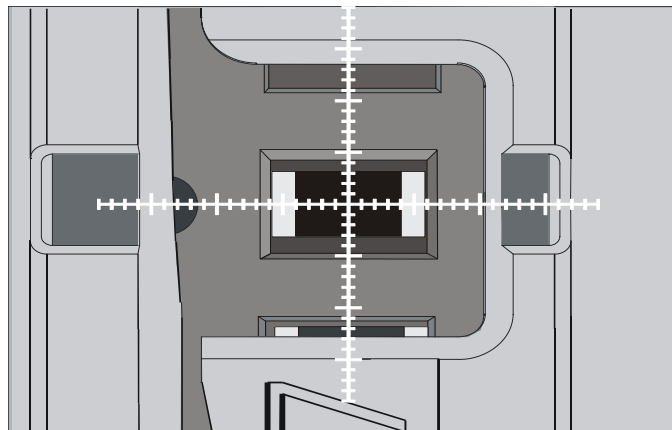

Figure 5-36. Camera view of component pick position.
5. Center the cross hairs on the component in the pick position by using the trackball, see Figure 5-36. ALM8 and ALM1216 magazines are centered in both directions. The other tape magazine types are centered in the X direction only.
Figure 5-36 shows an Agilis tape magazine. A menu, located in the upper left corner of the window, is described on page 5-39.
Adjust the pick position in the Y direction so that the cross hairs are positioned in the component center as shown in Figure 5-36.